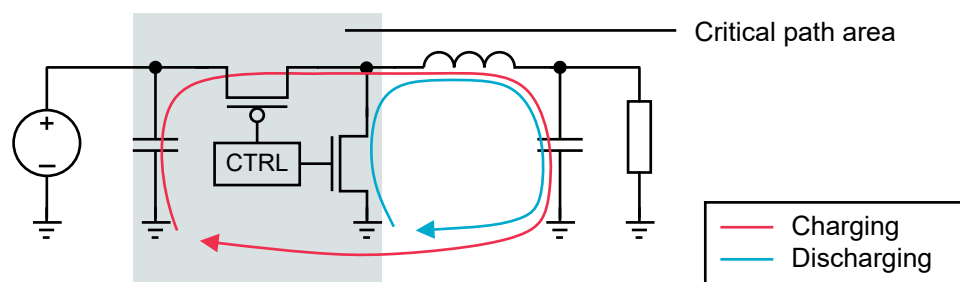

Figure 3: Buck regulator switching cycles
- In buck regulators, the input has the highest rate of current change (di/dt). Therefore input routing loop area and impedance are critical. See figure Figure 3: Buck regulator switching cycles on page 10.